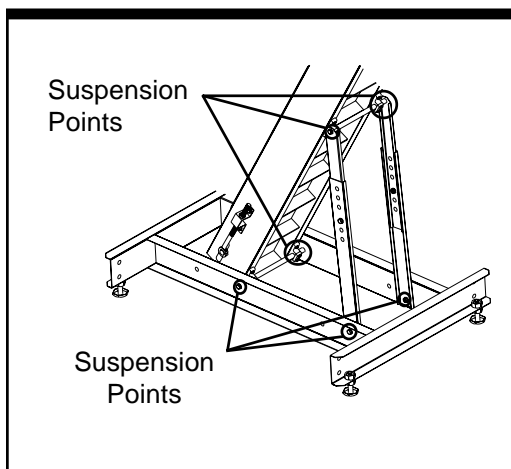

Figure 3-4. Adjusting the Dump Height
11	Figure 3-4. Adjusting the Dump Height
Step 5—Adjust Dump Height. Once the extension is installed, you may need to adjust the dump height by more than the leveling feet will allow. To adjust the dump height of the prefeeder, loosen the six suspension points which connect the elevator and front legs to the frame of the prefeeder on both sides. See *Figure 3-4* for location of suspension points. This will allow the unit to pivot when adjusting the dump height. Then, raise or lower the height of the front legs by changing the holes in which the legs connect to the frame. (Extra holes are provided to move the legs up or down.) When the desired dump height is obtained, tighten the locknuts in the front legs and the six suspension points to secure the unit. See *Figure 3-5* for recommended dump heights and *Figure 1-2*, dimension “C”, for dump height specifications.